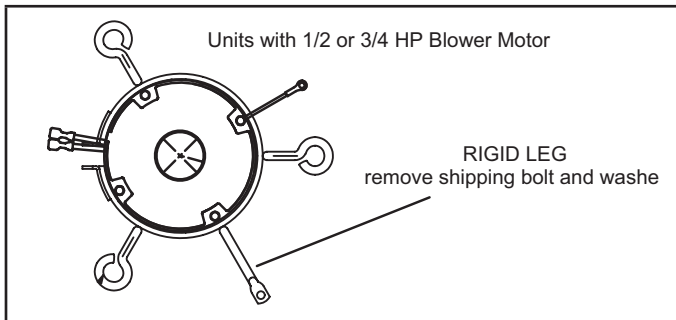

Figure 6
**NOTE** - Units with 1/2 or 3/4 hp blower motors are equipped with three flexible legs and one rigid leg. See figure 6. The rigid leg is equipped with a shipping bolt and a flat white plastic washer (rather than the rubber mounting grommet used with a flexible mounting leg). **The bolt and washer must be removed before the furnace is placed into operation.** After the bolt and washer have been removed, the rigid leg will not touch the blower housing.